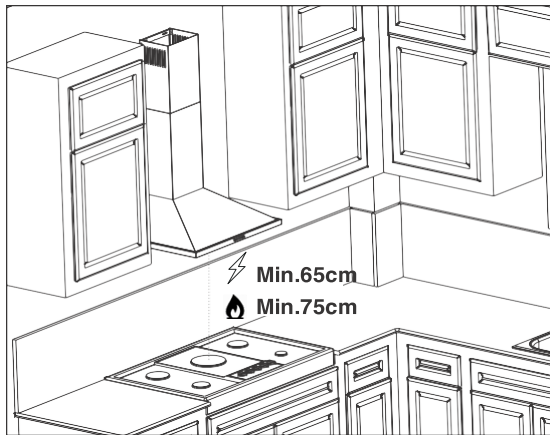
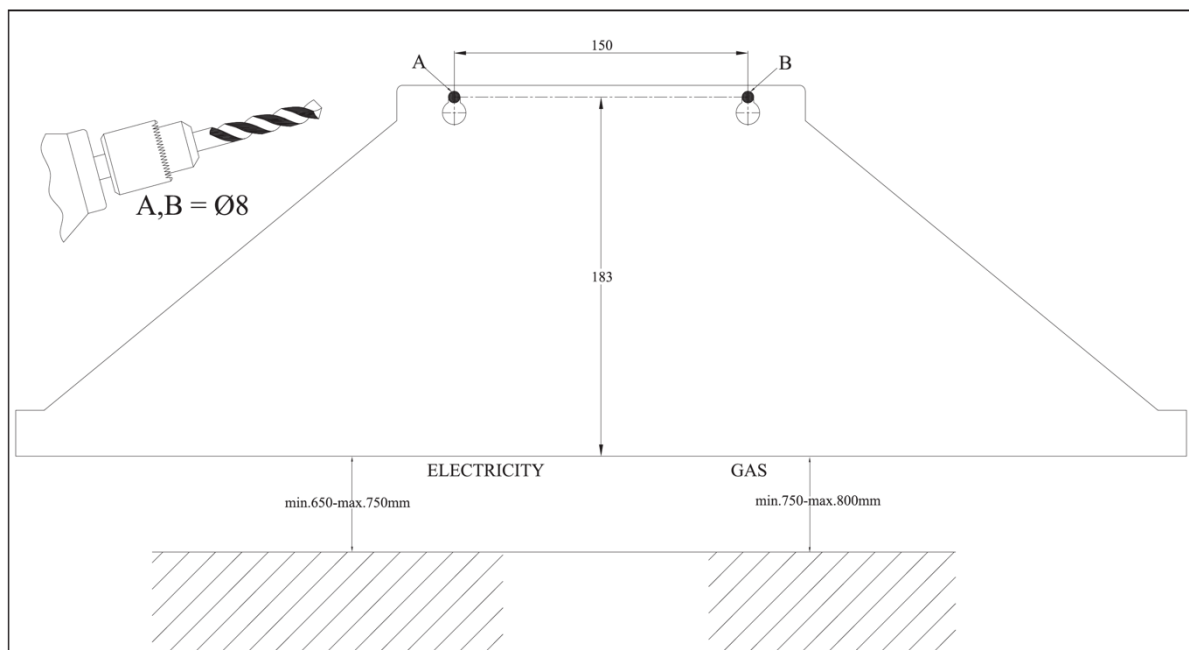

Fig. 8
Fig. 9
The final installed position of the hood must exceed the minimum required distance (Fig. 8).
1. Plan where you want to mount your hood in conjunction with the installation plan (Fig.9). Make sure you adhere to the minimum height requirement from electric or gas cook tops (Fig.8).